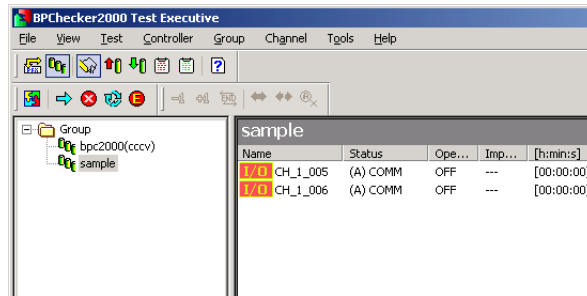

Fig.A-1 Communication Error
1. If a power failure occurs on a channel, the Test Executive will detect a communication error within approximately 10 s. The icon corresponding to the channel changes to an I/O icon as shown in Fig. A-1. (This is the same if the power failure recovers within 10 s.)
1. The icon corresponding to the channel changes to an I/O icon as shown in Fig. A-1.